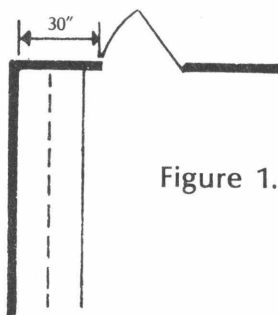

Figure 1.
1. Doors should not be placed closer than 30 inches from the corner if cabinets are to be extended to the corner. Windows should not be placed closer than 12¾ inches from the corner if wall cabinets are to be extended to the corner. See Figure 1.